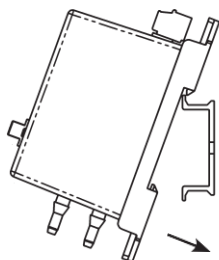

Figure 3: Catch mounting hook on edge of DIN Rail, then rotate into place.
2. Catch the mount hook on DIN rail as shown in Figure 3.